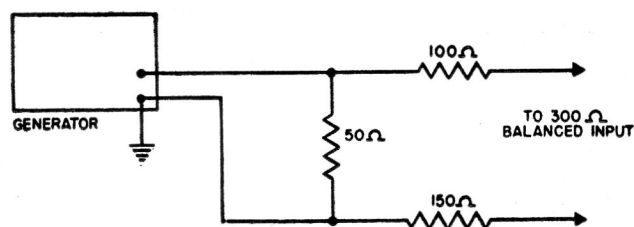

Fig. 16
A pad that will work well with most generators may be made using **carbon** resistors as shown in Figure 16.
5. Feed sweep generator into antenna terminals, sweeping channel 12. Use pad illustrated in Figure 16, if necessary.